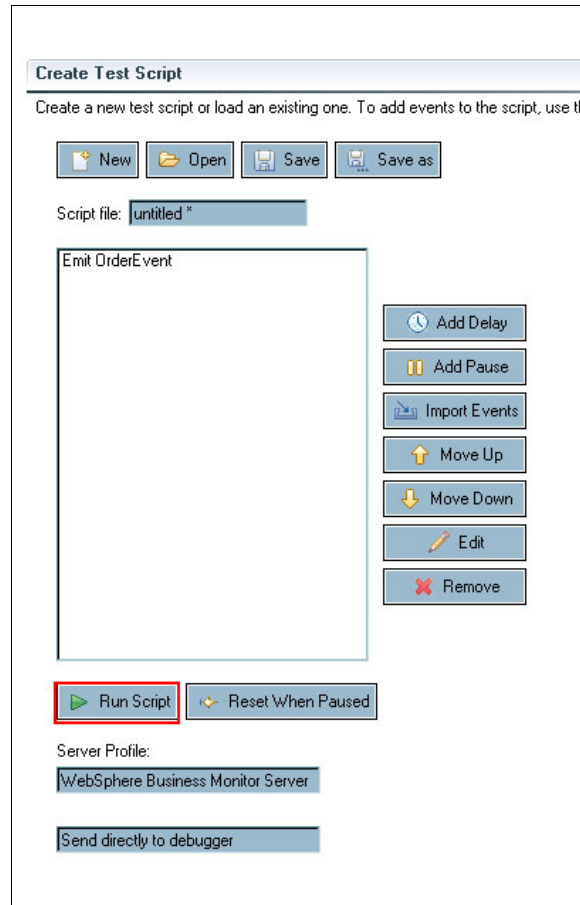

Figure 8-107 Send event
10. Click **Run Script** in the test script pane. See Figure 8-107.